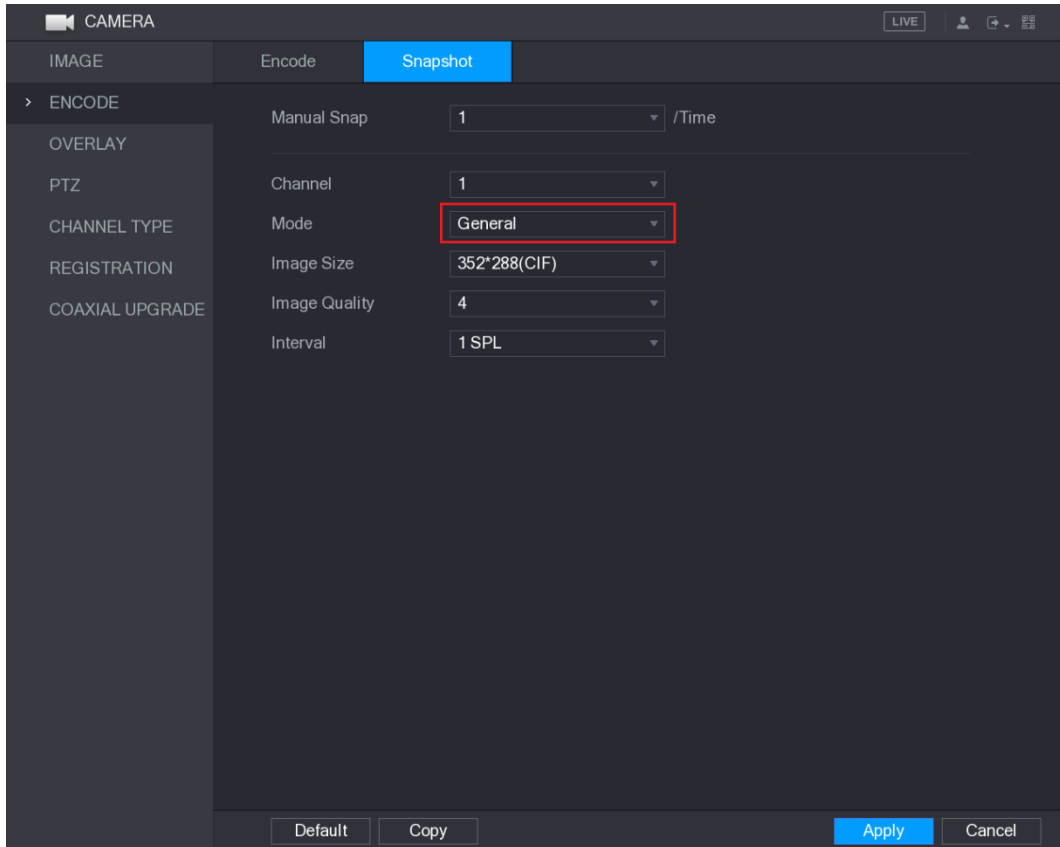

Figure 5-92
**Step 5** In the **Mode** list, select **General**, and then configure other parameters. See Figure 5-92.